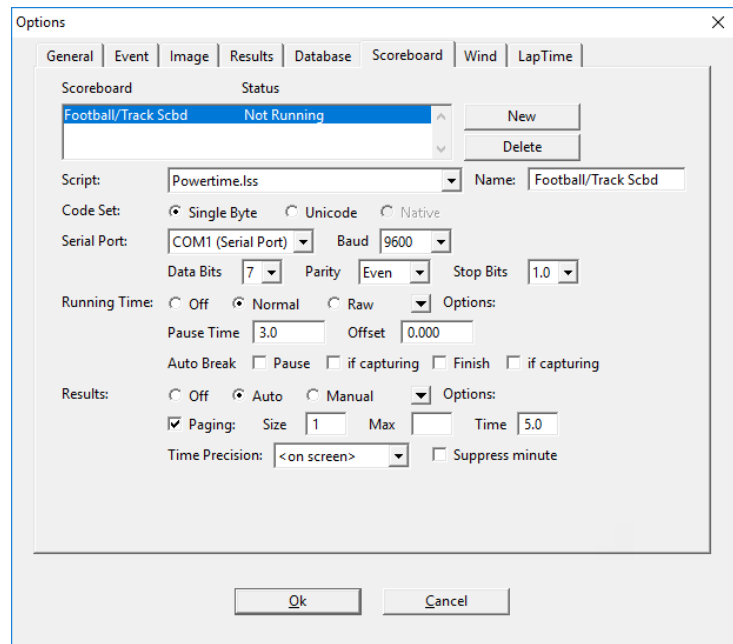

Figure 20: FinishLynx Scoreboard Options
4. Set up the Scoreboard options as follows (refer also to **Figure 20**):